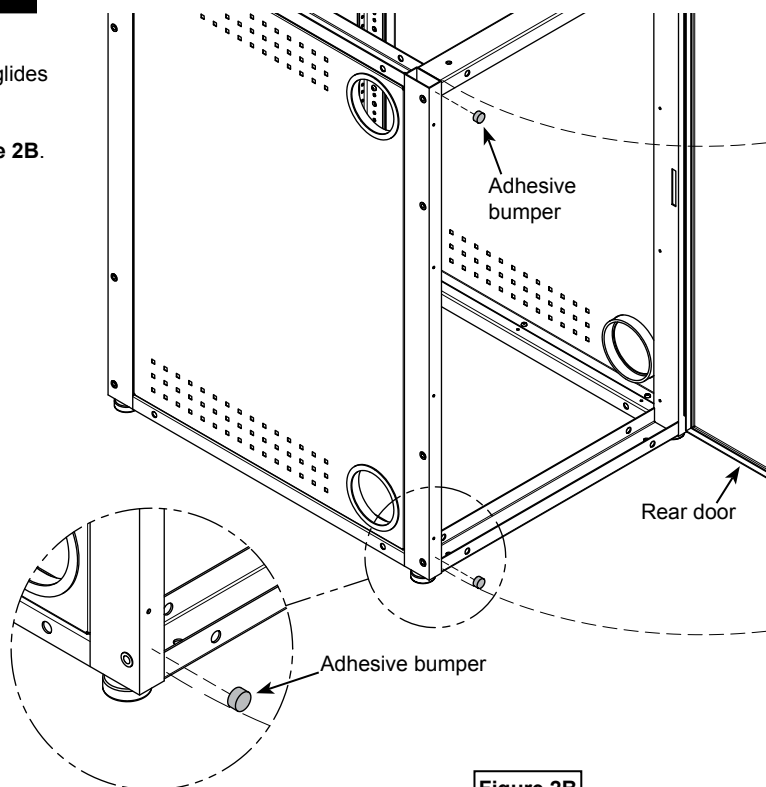

Figure 2B
3. Tip the unit back upright, and open the rear door to attach the (2) adhesive bumpers to the equipment rack frame as shown. **Figure 2B.**